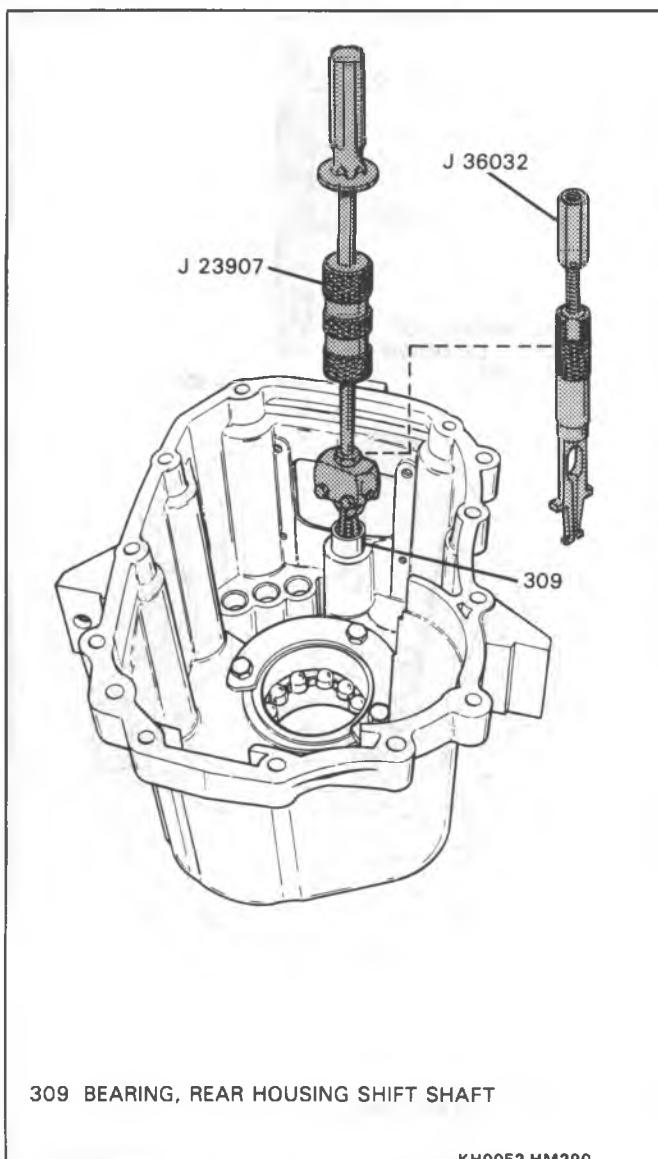

Figure 58 Removing Shift Shaft Bearing
2. Rear housing shift shaft bearing (309), using J 23907 with pilot bearing puller or J 36032 (Figure 58).
3. Three bolts (306), output shaft bearing retainer (303) (4WD), bearing assembly (outer) race (37), using brass drift then remove shim (212).